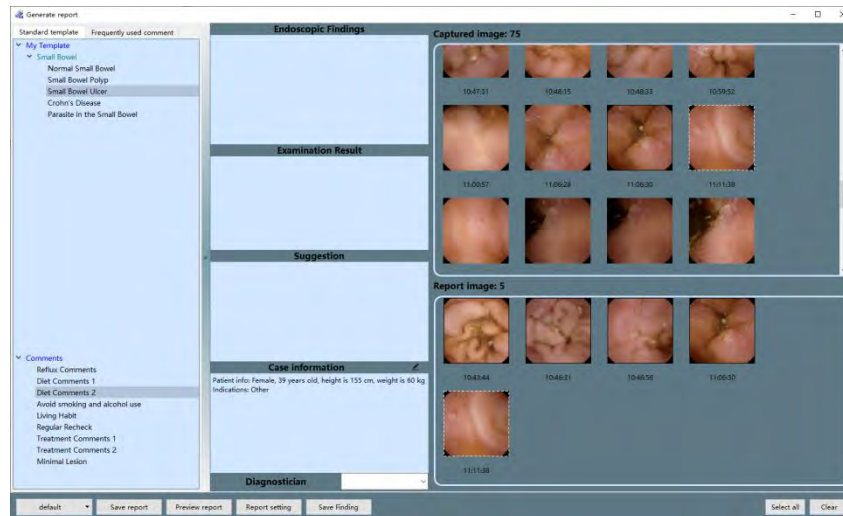

Figure 4-53: Select Images for Report
2. Move the mouse over the captured image area and double click to select images. The selected images will then be added to the report image area. Double click on images in report image area to remove them. The "Select all" or "Clear" buttons can be used to select all captured images for report or remove all images from report (Figure 4-53).